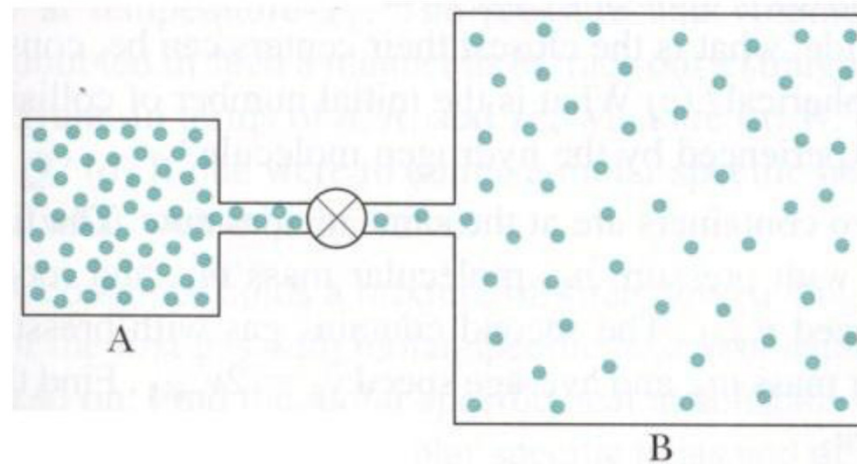

Fig. 2
2. Container A in Fig. 2 holds an ideal gas at a pressure of 5.0×10^5 Pa and a temperature of 300 K. It is connected by a thin tube to container B with four times the volume of A. Container B holds the same ideal gas at a pressure of 1.0×10^5 Pa and a temperature of 500 K. The connecting valve is opened, and equilibrium is achieved at a common pressure while the temperature of each container is kept constant at its initial value. What is the final pressure in the system?